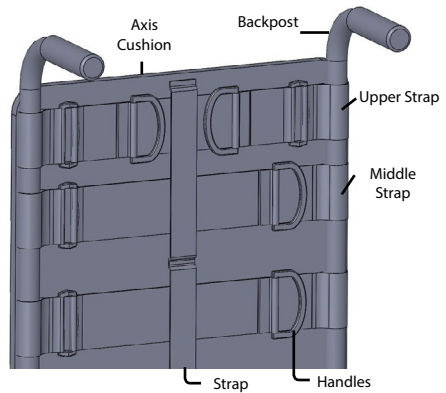

Figure 2
(Figure 2) The top strap is built with a central elastic part.
- 3) Press the cushion on the backposts so that the velcro strips link up. Pull up the handles to adjust strap tension. (Figure 2)